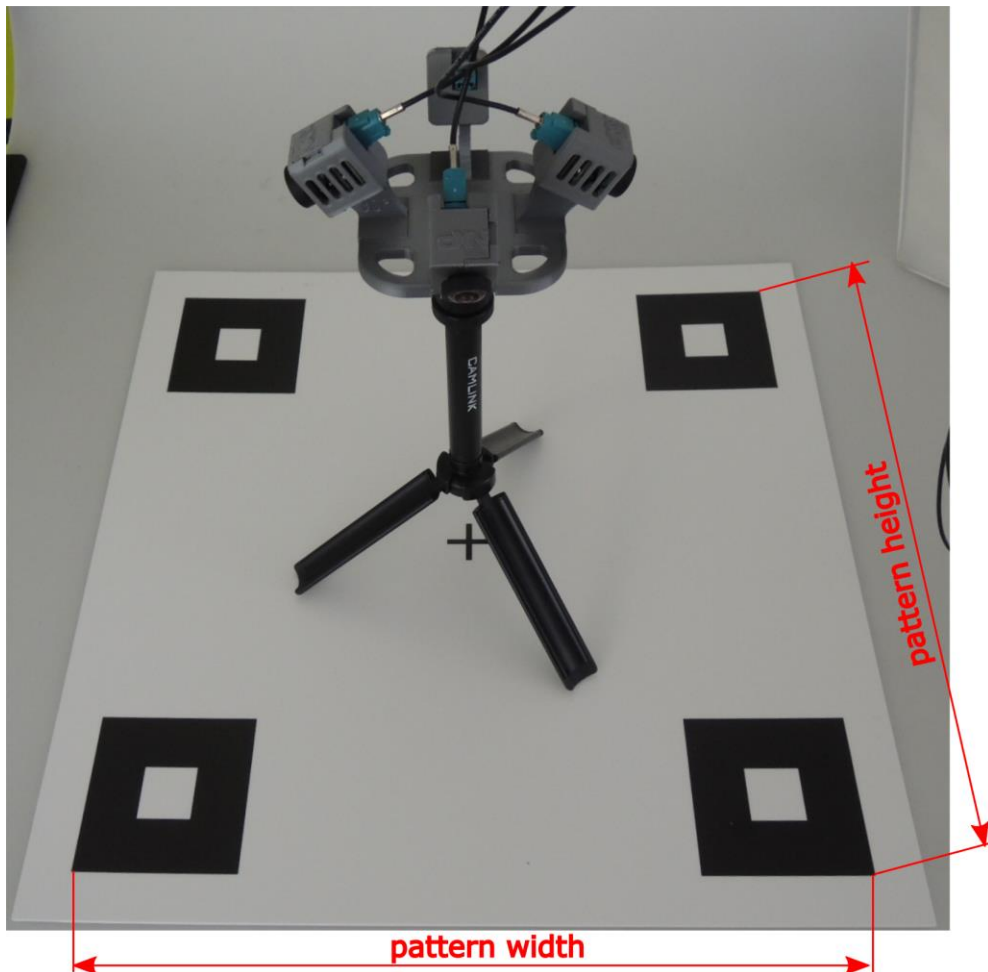

Figure 11. Extrinsic camera calibration setup
To perform the extrinsic calibration of the 4-camera system, a square poster of a known size is used (see Figure 11).
- Place the tripod with the cameras to the center of the big calibration pattern (see Figure 11).